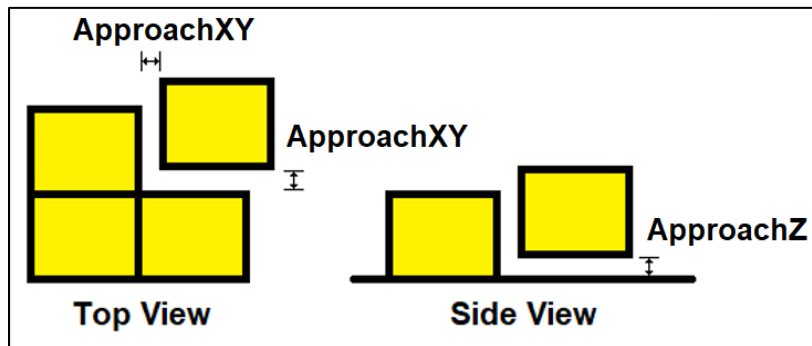

Figure 32 - Clearance and Lift definition
The **ApproachXY** and **ApproachZ** parameters are illustrated in Figure 32. When performing blind palletization, it is helpful for the robot to bring the object close to its destination and then snug it up to other objects when close. The **ApproachXY** parameter specifies the lateral (X,Y) offset (in mm) for initial placement of the object before moving to the final position. The **ApproachZ** parameter specifies the vertical (Z) offset (in mm) from the final position when performing the initial placement. When palletizing an object with nonzero **ApproachXY** and **ApproachZ** parameters specified, the robot will move the object to the retract distance above the placement location, considering the clearance. It will then lower the object to the **ApproachZ** distance above the final placement location, offset in X and Y by the **ApproachXY** distance. It will then move to the correct (X, Y) lateral position, still offset in height (Z) by the **ApproachZ** distance, and then will finally lower the object to the final location. This is useful to achieve a close-packing of boxes, for example.